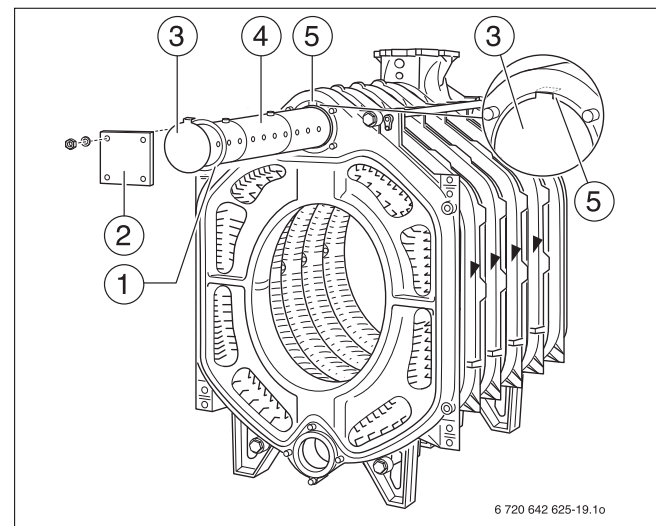

Fig. 22 Sealing in the supply pipe
- ▶ Make sure that the cam [3] on the end plate of the supply pipe (→ Fig. 22, [3]) fits in the notch in the top boiler hub (→ Fig 22, [5]).